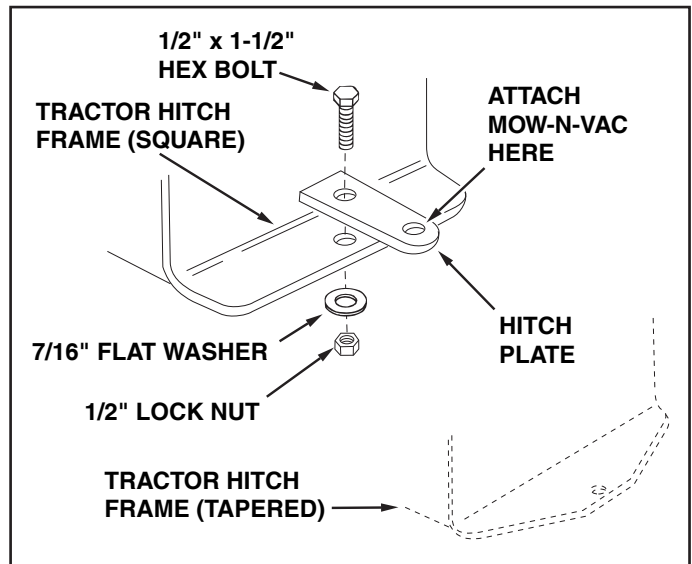

FIGURE 13
- Use a 1/2" x 1-1/2" hex bolt, a 7/16" flat washer and a 1/2" nylock nut. See figure 13.